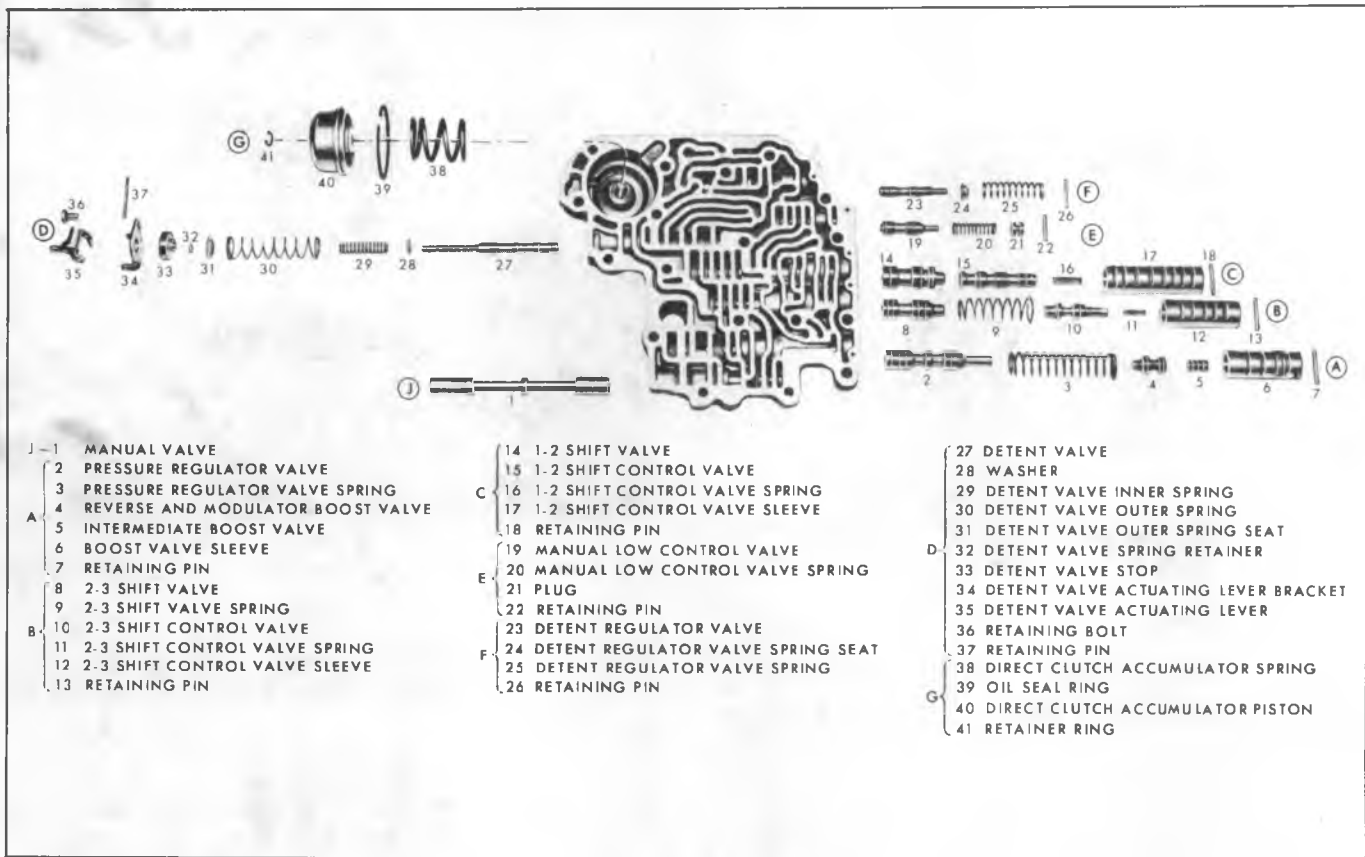

Fig. 53M--Valve Body--Exploded View
## Valve Body Disassembly, Inspection, and Reassembly (fig. 53M)
1. Position valve body assembly with cored face up and direct clutch accumulator piston pocket positioned as shown in Figure 53M.